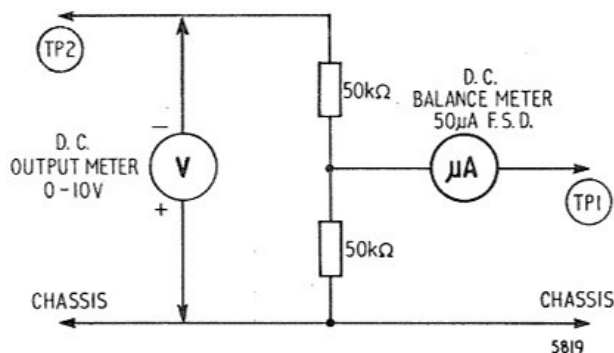

Fig. 2 Meter connections for F.M. alignment
- (f) A matched pair of 50k ohms resistors (see Fig. 2).
Notes: (a) Connect the d.c. output and balance meters and the two 50k ohms resistors into circuit as shown in Fig. 2.